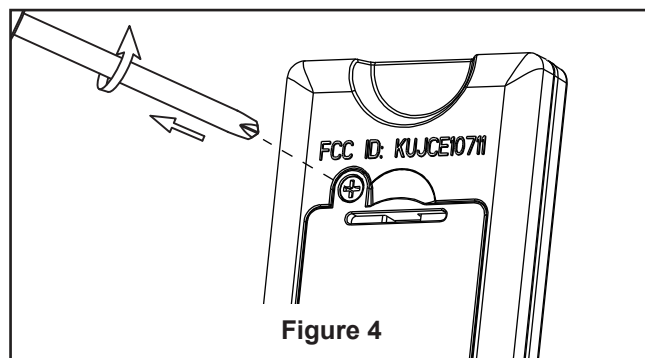

Figure 4
- ☐ 4. Assemble the LED assembly to the light kit assembly using the screws removed in Step 3A. (Figure 4)
- ☐ 4. If you need to replace the batteries. Remove the battery cover from remote control by screwdriver and retain the screw for later. (Figure 4)